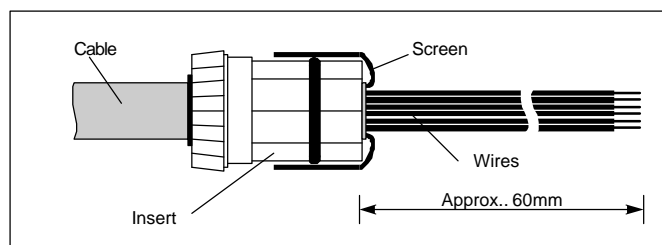

Figure 9: Attaching the cable to the sensor
- Bend back the shield over the O-ring in the insert, cf. Figure 9